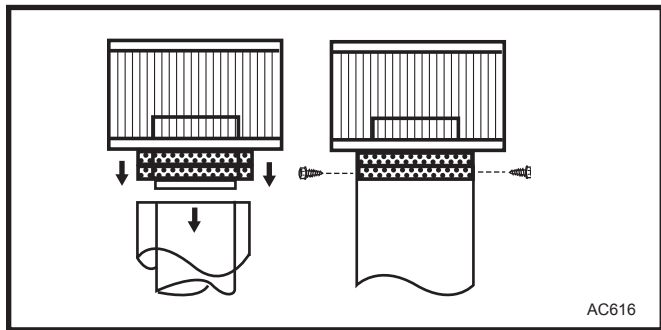

Fig. 5 Position round top for attachment.
7. Position the round top as indicated in Figure 5. From the back side, insert the flue telescoping pipe into the corresponding flue pipe section.
9. Using the prepunched holes in the chimney top as guides, drill $\frac{1}{8}$ " holes in outer pipe. Secure round top housing to outer pipe with screws provided. (Fig. 5)